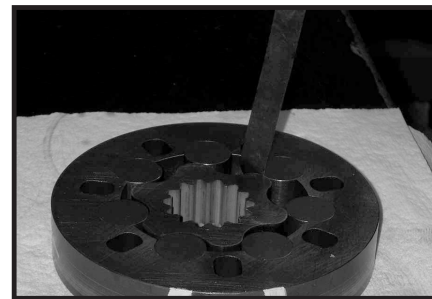

Figure 15
11. Place rotor set (8) and wear plate (9) on a flat surface and center rotor (8A) in stator (8B) such that two rotor lobes (180 degrees apart) and a roller vane (8C) centerline are on the same stator centerline. Check the rotor lobe to roller vane clearance with a feeler gage at this common centerline. If there is more than .005 inches (0.13 mm) of clearance, replace rotor set. SEE FIGURE 15.